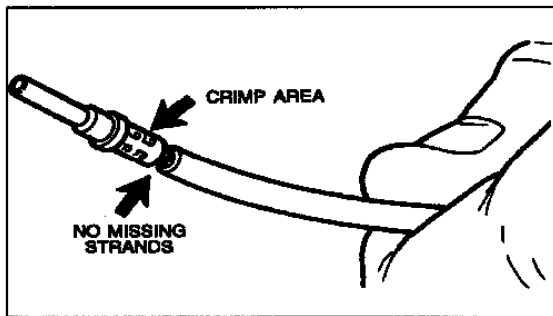

Figure 28 Inspect Wire/Contact Terminal
4. Inspect the wire/contact terminal to make sure that all wire strands are in the crimp barrel and that the crimp is secure (Figure 28).